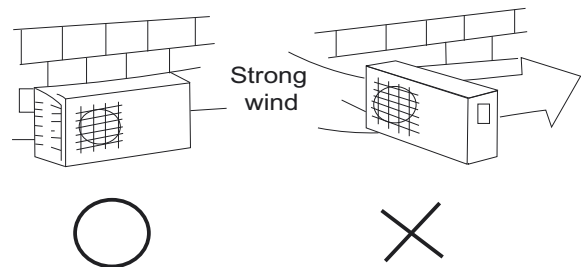

Fig. 9 — High Wind Installation
1. Select the installation location of the outdoor unit following the installation requirements. To prevent high wind exposure, install the outdoor unit with the air inlet side facing the wall (see fig 9).